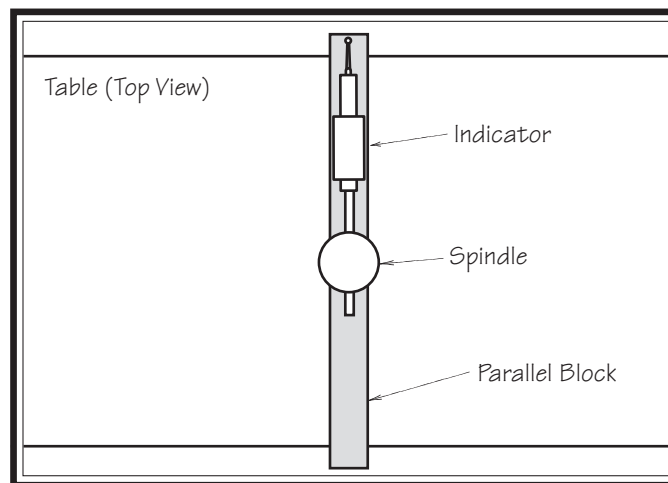

Figure 33. Parallel block positioned for the Y-axis measurement (top view).
9. Place the parallel block directly under the spindle and across the width of the table, as illustrated in **Figure 33**.
10. Rotate the spindle so that the indicator point rests on the parallel bar, as illustrated in **Figure 33**, then zero the dial.